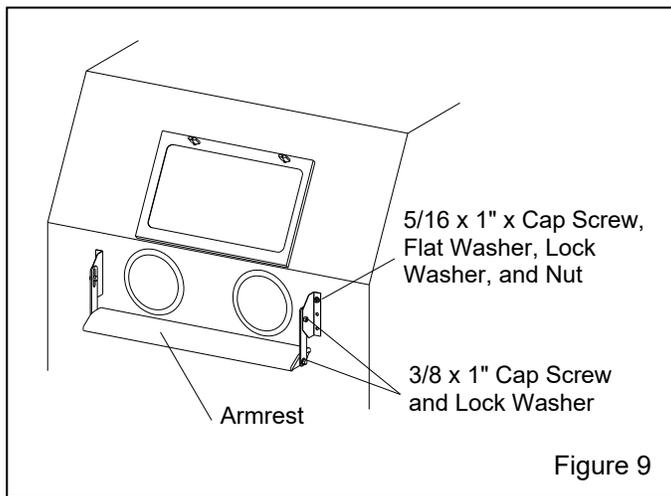

Figure 9
**3.4.1** Assemble the armrest and mounting brackets, as shown in Figure 9.